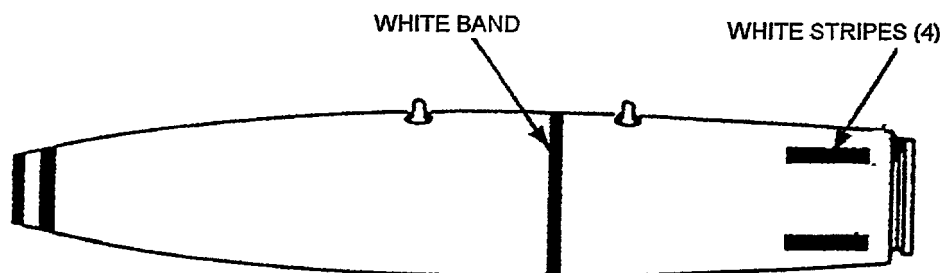

Figure 4-3D. Mine Identification
- e. Using PPE per MSDS, paint a white band approximately 1 inch wide around bomb just forward of aft suspension lug; then paint four horizontal stripes approximately 6 inches long on aft end of bomb at 90 degree intervals starting at 45 degrees from top dead center (Figure 4-3D).